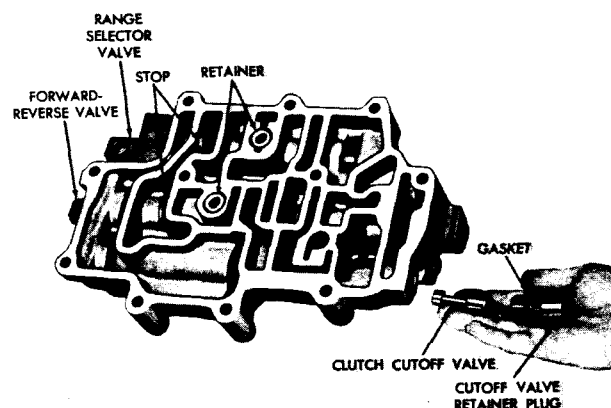

Fig. VI-10. Removing (or installing) clutch cutoff valve assembly S2420
a. Disassembly (item 36, B, foldout 14)
(1) Remove the cutoff valve retainer plug, gasket, and cutoff valve (fig. VI-10).
diameter first, into the valve body. Install the assembled valve plug, seal, cup retainer plug, and gasket into the valve body (fig. VI-10).